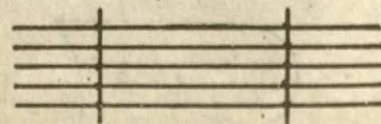

FIG. 2.4.18
22. Put the five longer pieces of wires horizontally and parallel to each other at equal distances as shown in Fig. 2.4.18. The total distance between the first and fifth wire should be equal to any of the two shorter wires.